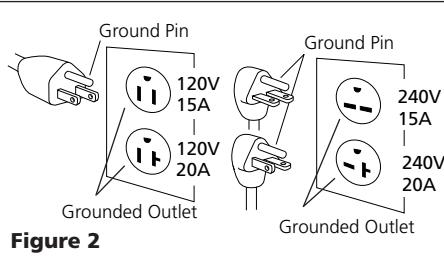

Figure 2
1. This product is for use on a nominal 120 volt circuit and has a grounding plug that looks like the plug illustrated in Fig. 2. Make sure the product is connected to an outlet having the same configuration as the plug. This product must be grounded. In the event of an electric short circuit, grounding reduces the risk of electrical shock by providing an escape wire for the electric current. This product is equipped with a cord having a grounding wire with an appro-
priate grounding plug (See Fig. 2). The plug must be plugged into an outlet that is properly installed and grounded in accordance with all local codes and ordinances.
1. If the plug on the electrical cord of the unit is unfamiliar to you or will not fit your particular receptacle, the illustrations in figure 2 will help you understand why by illustrating the different plugs and the voltages they are to be used with.